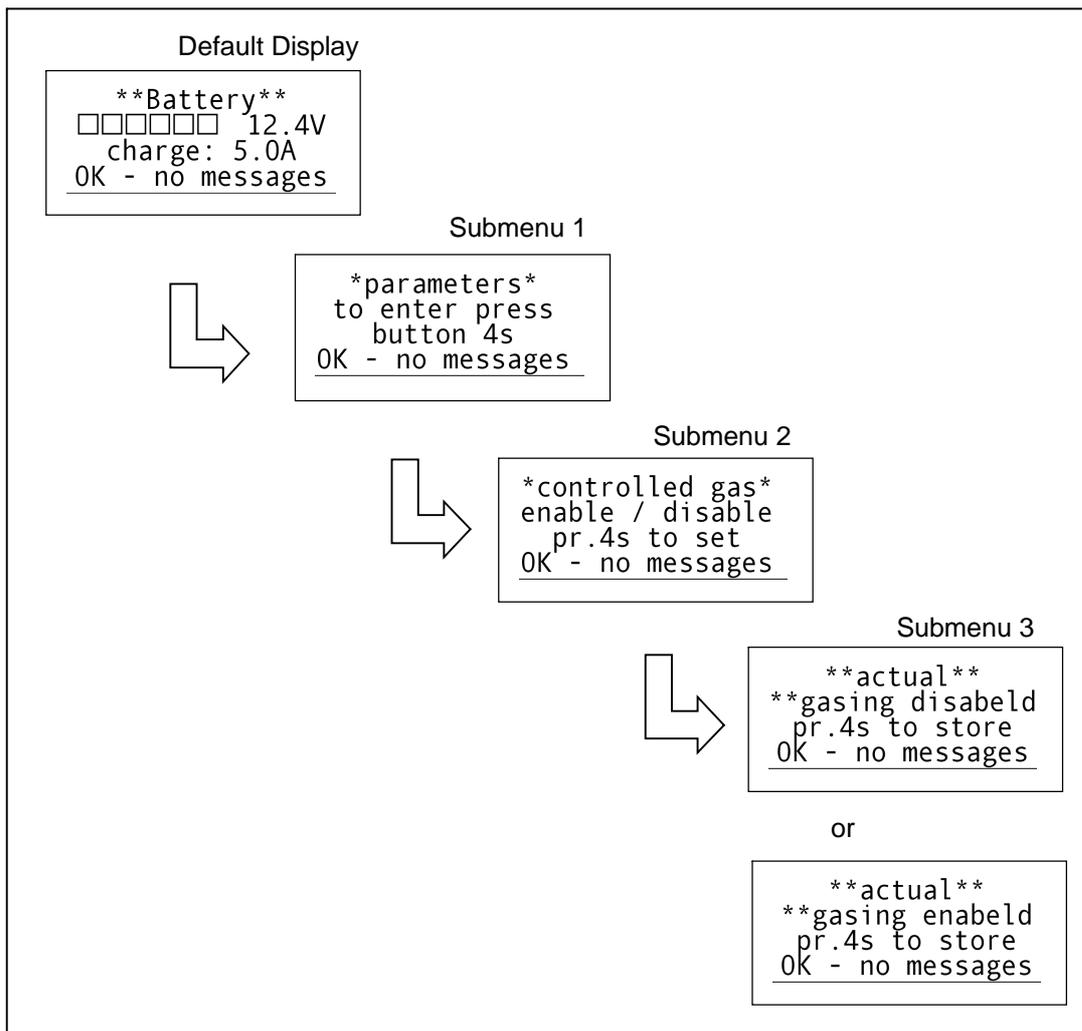

Fig. 7
3. Controlled Gassing (Fig. 7)